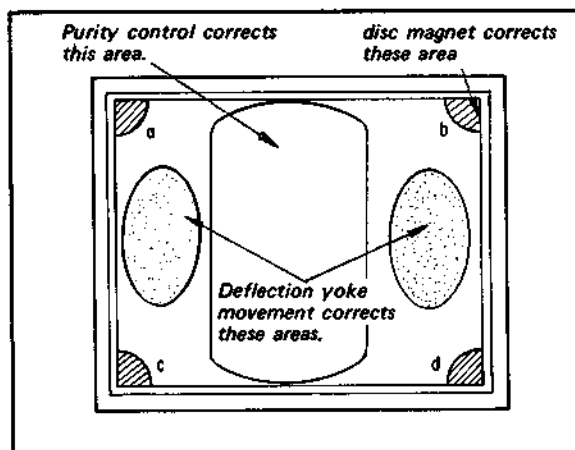

Fig. 3-4. Overall check and adjustment of purity
7. Check and adjust the beam landing at both sides and each corner as shown in Fig. 3-4 and 3-5.